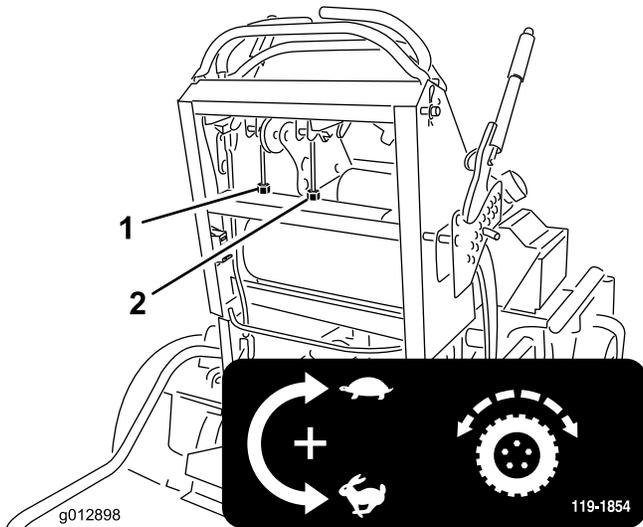

Figure 56
4. Rotate the right cable adjustment to position the right motion control in the center of the control panel neutral lock slot. Then, rotate the left cable adjustment in quarter-turn increments until the machine tracks straight (Figure 56).